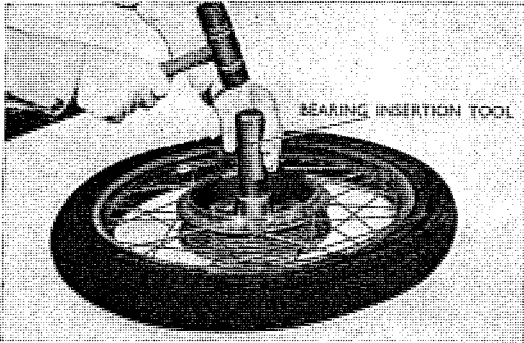

Fig. 4.77 Insertion of bearing
2. Grease the 6302 R ball bearing and the inside of the front wheel hub and insert the spacing collar. Drive in the 6302 R ball bearing. (Refer to Fig. 4.77)